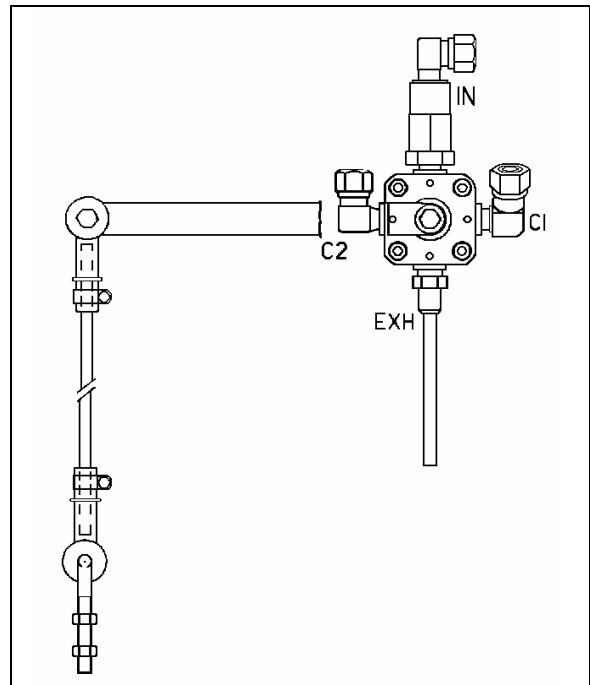

FIGURE 48: REAR HEIGHT CONTROL VALVE 16093
2. Loosen the clamp on the height control valve rubber coupling and bring it up or down (Fig. 48).